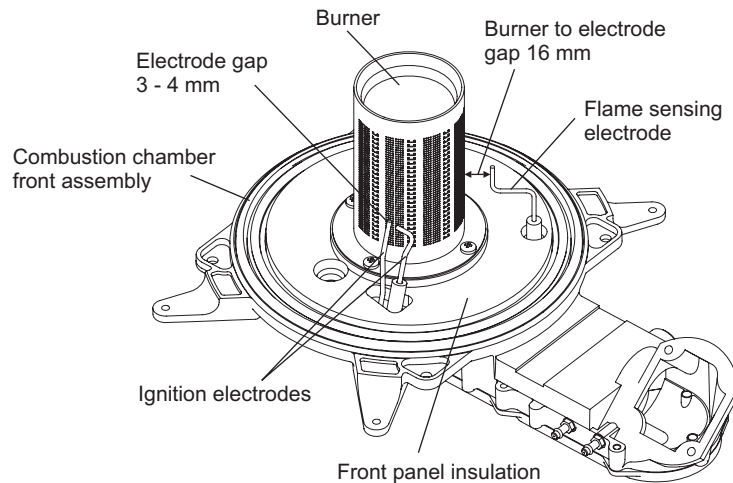

Fig. 28
9. Check the spark gap, positioning and height of the electrodes. Refer to Fig. 28.